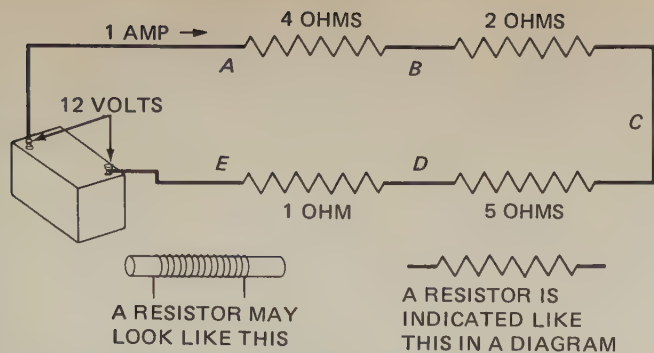

FIG. 20-11 A series circuit made of four resistors of varying resistances.
The resistance of a series circuit is the sum of the resistances of the various components of the circuit. In Fig. 20-11, the total resistance, ignoring the wires between the resistors, is  $4 + 2 + 5 + 1$ , or 12 ohms. Using Ohm's law, we can calculate that 1.0 amp will flow from the 12-volt battery through the 12-ohm circuit.
**○20-19 VOLTAGE DROP** If the voltage across each of the resistors in the circuit shown in Fig. 20-11 were checked with a voltmeter, the voltage would add up to 12 volts. For example, the voltage between A and B, or across the 4-ohm resistor, would be 4 volts, from B to C it would be 2 volts, from C to D it would be 5 volts, from D to E it would be 1 volt. If we did not know the resistance of any of the resistors, we could find it by measuring the voltage and amperage and then using Ohm's law ( $R = E/I$ ). For example, the resistance of resistor AB would be 4 volts divided by 1 amp, or 4 ohms.